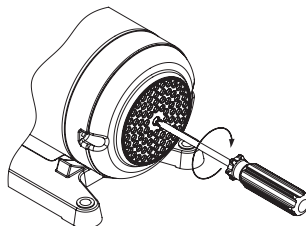

Fig. 10
4. If the pump shaft is seized up after periods of inactivity, please place a screw driver from the motor end to rotate the shaft. It should free the pump shaft. (See Fig 10) If this does not remedy the problem, the unit will need dismantling.